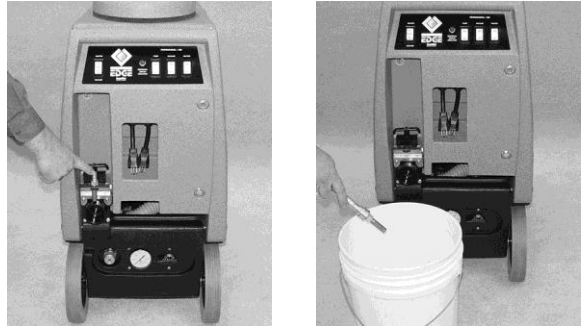

Fig. 10
1. Remove empty-out nozzle from its storage bracket (Figure 10) and attach to end of solution hose.